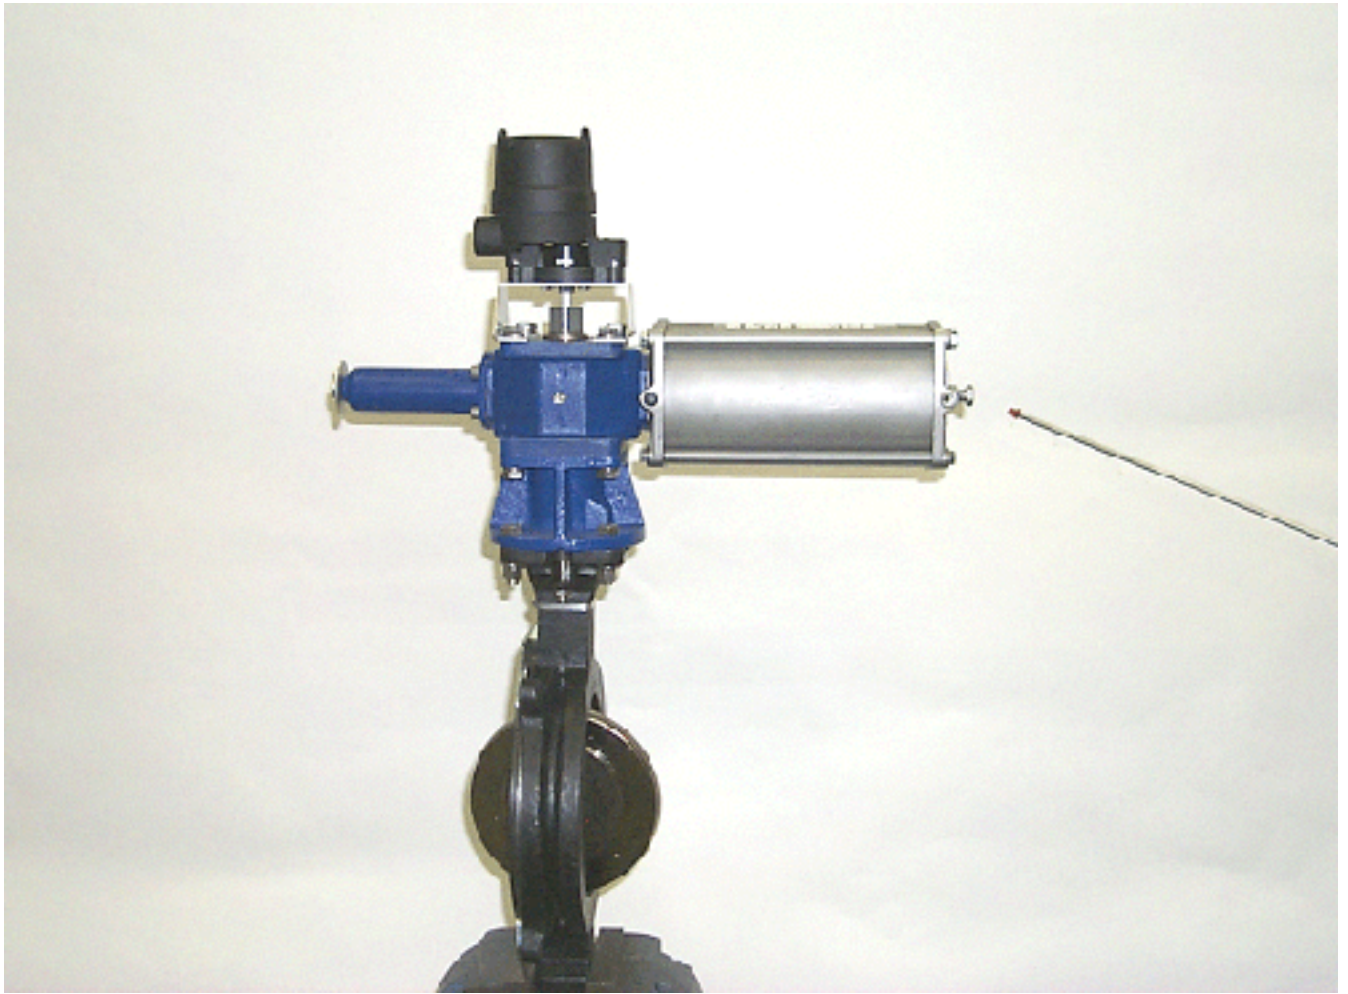

Figure 1.
3. Before beginning this procedure examine the end of the "closed" travel stop bolt, (see Fig. 1) if there is a 2 stamped in the center of this bolt head, do not perform this procedure. If you are having trouble with a VA2 valve assembly stamped with a 2 please contact AC Controls' Chuck Andrews at (704) 545-4500 for recommendations on how to proceed.
2. Locate the "closed" travel stop bolt. (See Figure 1) The "closed" travel stop bolt was originally marked with either "anti-sabotage inspectors lacquer", as shown in Figure 2, or wired, as shown in Figure 3. Check to see whether these appear to still be at their factory setting or not. If not please contact AC Controls' Chuck Andrews at (704) 545-4500 for recommendations on how to proceed. Examples of previous adjustment would be a break in the Lacquer or twisting of the wire. If it appears the unit is still at its original setting and the unit was wired, cut the wire loose with a pair of wire cutters and discard. There is no need to replace this wire after completion of this procedure.